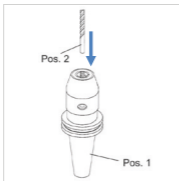

Figure 2: Inserting tool
2. Insert the tool (item 2) with the shank forward into the locating bore of the drill chuck until it stops (see "Figure 2: Inserting tool").